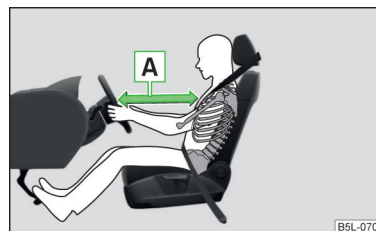

Fig. 9
- It is important that the driver and front passenger maintain a distance of at least 25 cm to the steering wheel or dashboard **A** » Fig. 9. Not maintaining this minimum distance will mean that the airbag system will not be able to properly protect you - hazard! The front seats and the head restraints must always also be correctly adjusted to match the body size of the occupant.